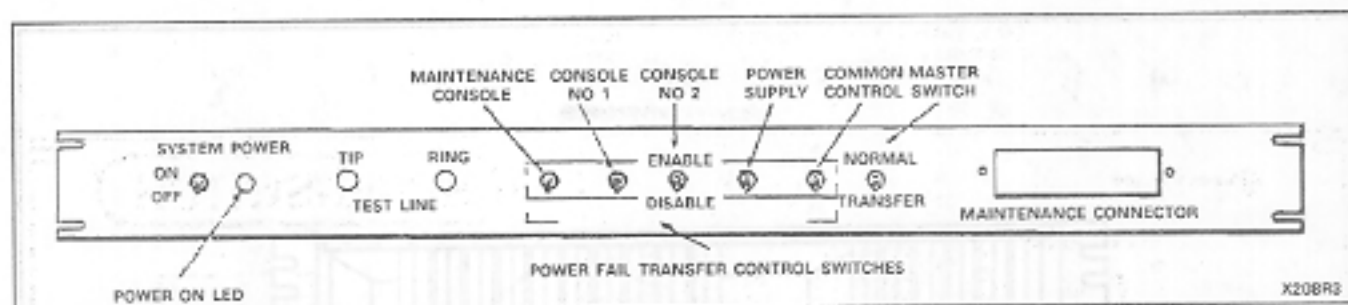

Fig. 2-5 SX-200 Maintenance Panel
2.09 The SX-100 maintenance panel (Fig. 2-4) measures 3.50 in. (88.9 mm) high, 23 in. (584.2 mm) wide, and 2.0 in. (50.8 mm) deep, with a total weight of 1.5 lb (.682 kg). The SX-200 maintenance panel (Fig. 2-5) measures 2 in. (51.0 mm) high, 19 in. (480.0 mm) wide and 2 in. (51.0 mm) deep, with a total weight of 2.1 lb (0.9 kg). The operation of both panels is identical. The maintenance connector on the right of the panel permits service personnel to perform maintenance tasks and enter new, or modify existing customer data using the maintenance console. The test line terminals on the panel allow the use of a standard hand test-set (butt-in) to establish calls through the system using preselected circuits. The power switch controls the application of power to the equipment shelves.